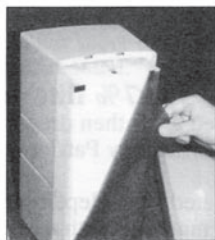

fig. 3
3. Detach the pre-filter foam sheet from the retaining "Velcro" strips (fig. 3).